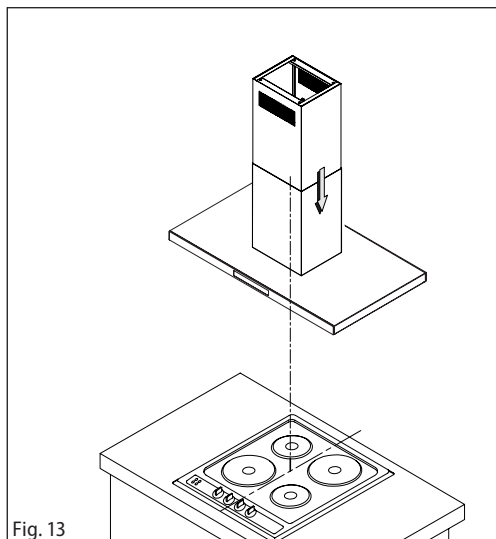

Fig. 13
10. Plug the power cord into the wall outlet. Fasten the screws on the upper chimney cover and lower the lower chimney cover fully (Figure 13)